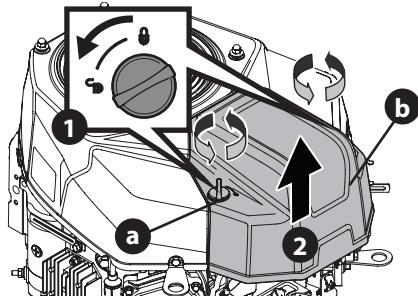

Figure 8
7. Attach the new air filter with foam element, aligning the hole in the air filter with the intake manifold (e). (Figure 8).